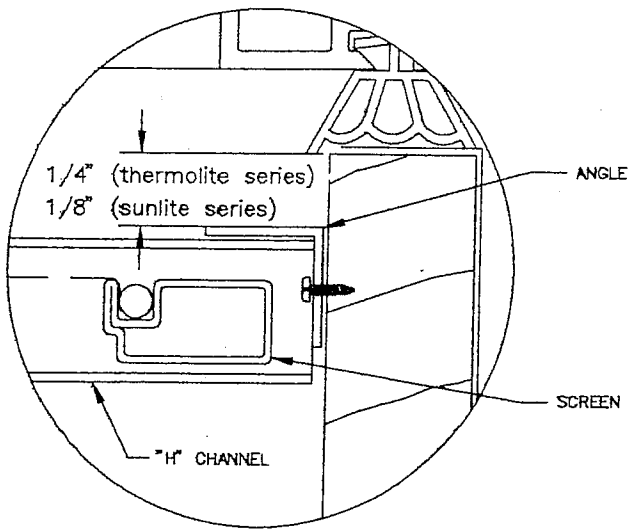

FIGURE 1
2. Install angles to both sides of skylight curb. Measure 1/4" from the top of curb for thermolite series (1/8" for sunlite series), as shown in figure 1 and attach with screws (#4 x 3/8" phillip pan head) provided.
3. Install the "H" channel at bottom of skylight with screws (#8 x 1 1/4" phillip flat head) provided. Note: notch in "H" channel should go toward the bottom curb. (see figures 1 and 3).